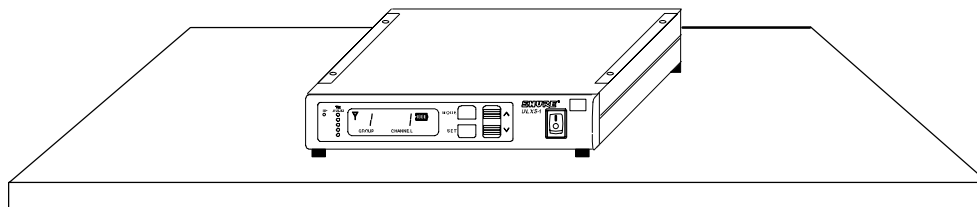

FIGURE 48
1. Align the supplied rack-mount brackets over the holes on each side of the receiver, as shown in Figure 48.